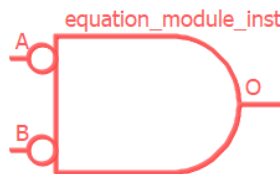

Figure 2.28. Schematic View Shows an Equation Module
- c. Click **OK**. The schematic block for the equation module in red appears in the Schematic view (Figure 2.28).